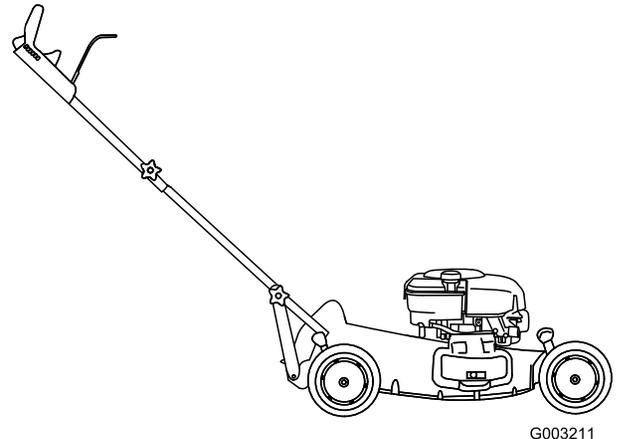

Figure 6
5. Rotate the handle rearward (Figure 6).